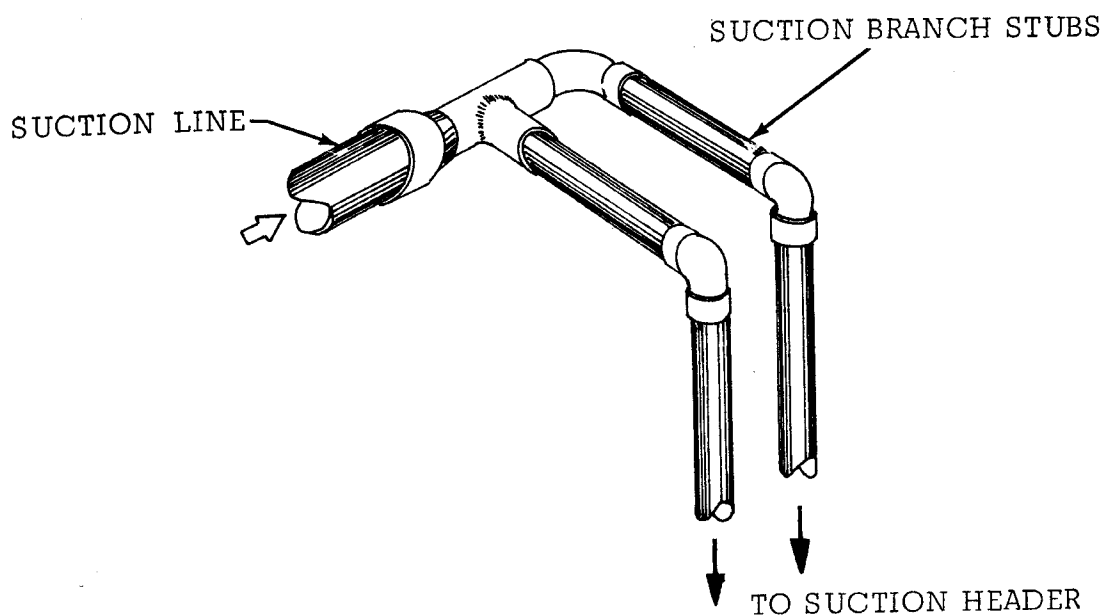

Figure IV-9
2. Suction Lines - Due to the size limitations of 3-way valves some of the larger KOOLGAS systems will require parallel connection to 2 suction branch stubs at the suction header. Figure IV-9 is a typical method for making this type of connection.